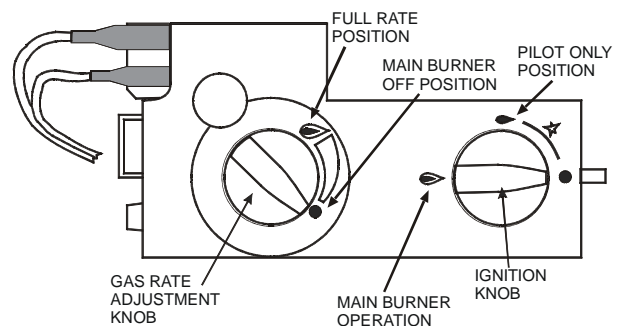

Figure 10 – Gas Valve
5. Turn the IGNITION KNOB anticlockwise to the Main Burner Operation position as shown in Figure 10.